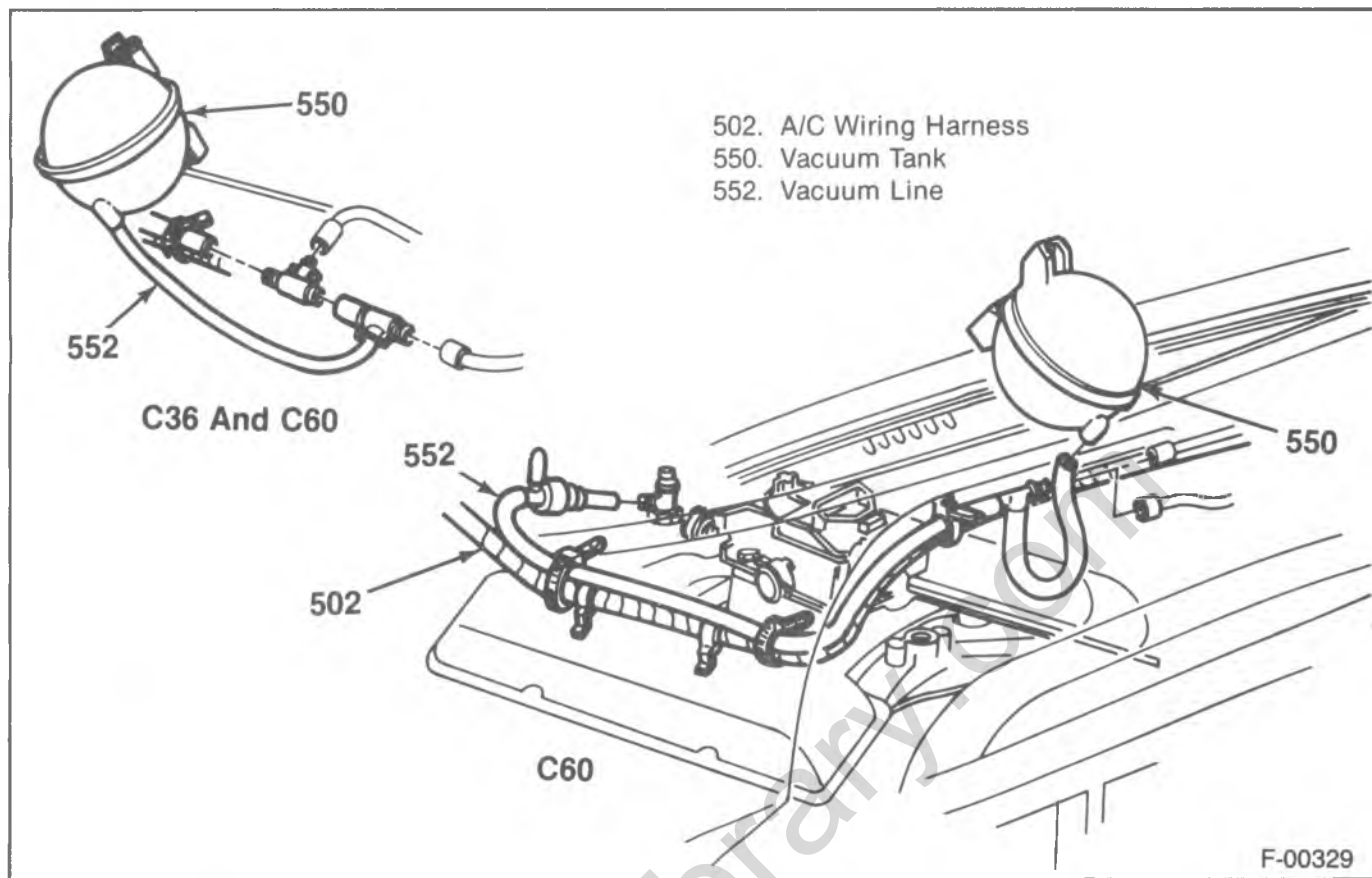

Figure 64—Vacuum Tank Assembly — 5.0 and 5.7L Engine
2. 5.0L and 5.7L Engine (figure 64).